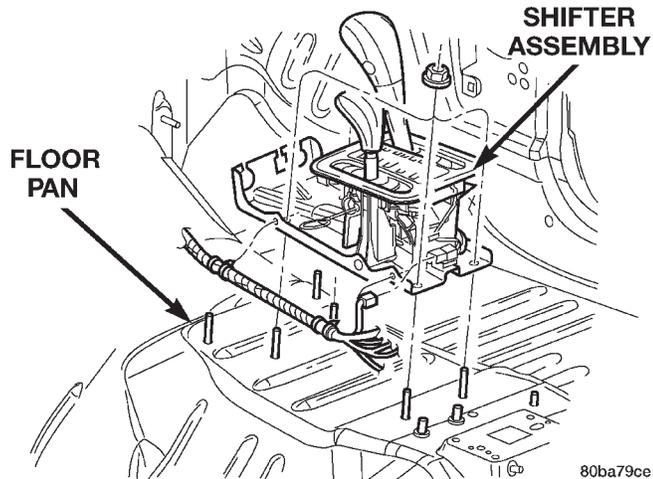

Fig. 40 Shifter Assembly
(7) Remove the transfer case shift cable from the shifter assembly.
(8) Disconnect all wiring connectors from the shifter assembly.
(9) Remove the shifter assembly retaining nuts from the floor pan (Fig. 40).